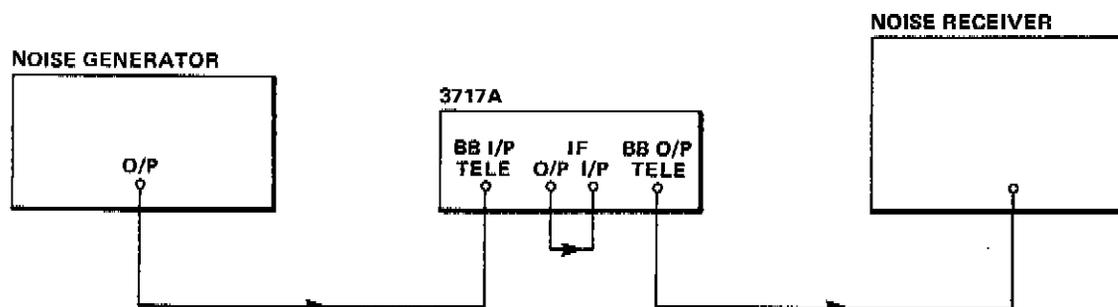

Figure 5-25 NPR Setup
13. Connect the equipment as shown in Figure 5-25. Install the 60kHz High Pass and the 8160kHz Low Pass Filters in the Noise Generator. On the 3717A, set the I/O SELECT to TELEPHONY, and the EMPHASIS to 1800 Channel.